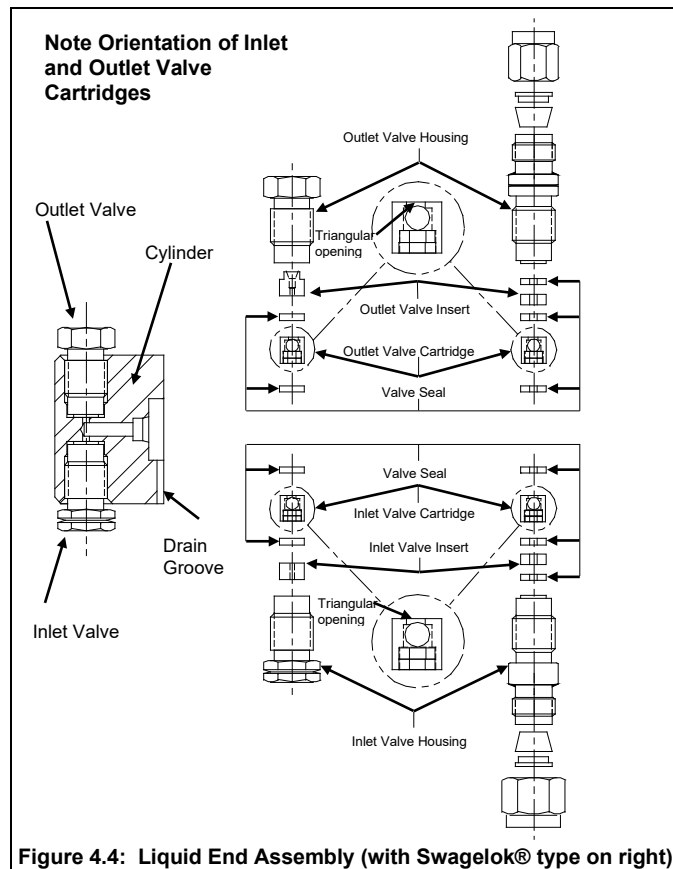

Figure 4.4: Liquid End Assembly (with Swagelok® type on right)
The valves are the two hexagon-shaped components on the liquid end assembly (see Figure 4.4). Inlet valves can be distinguished from outlet valves by the groove on the hexagonal part of the valve. To prevent the internal components of the valve from falling out upon removal keep the pump in its normal position when removing the inlet valve and turn the pump upside down when removing the outlet valve (CAUTION: when appropriate, be sure to plug the oil hole on the top of the motor gearbox before turning the pump upside down). Remove the valves with a ½” wrench, turning in a counter-clockwise direction. After removal, be careful to keep the valve oriented so the translucent washers face upwards. If you wish to replace the cartridge in the valve, you may purchase replacement cartridges, which include the cartridge and instructions.
3. Reassemble the valve by placing the valve insert in the valve housing using the larger (3/16”) dowel pin provided (1373 and 1374 valves use a total of 3 washers, one is installed before installing the valve insert). Make sure it is oriented correctly (see Figure 4.4). Press a new CTFE seal into place. Slide the valve cartridge into the valve housing making certain it is oriented correctly. Press another new CTFE seal into place. The CTFE seal will extend approximately 0.020 – 0.030” from the valve housing.